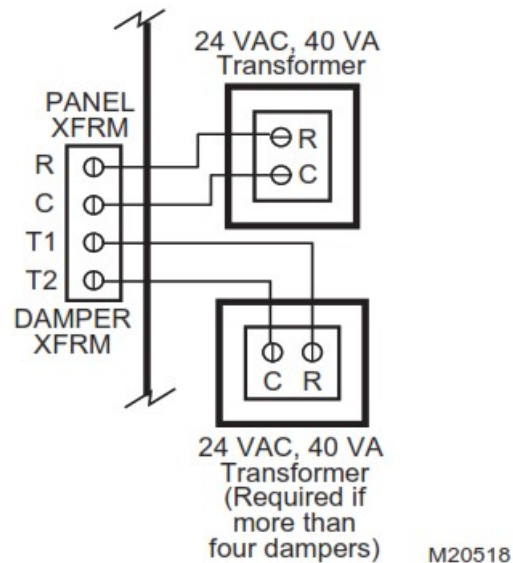

Fig. 13. Wiring transformer(s) to panel.
3. Connect C7735A Discharge Air Temperature Sensor (not supplied) to the DATS terminals. The wires are not polarized. See Fig. 13.
1. Wire the transformers to the panel as shown in Fig. 13. One 40 VA, 24 Vac transformer controls up to five ARD or ZD dampers.